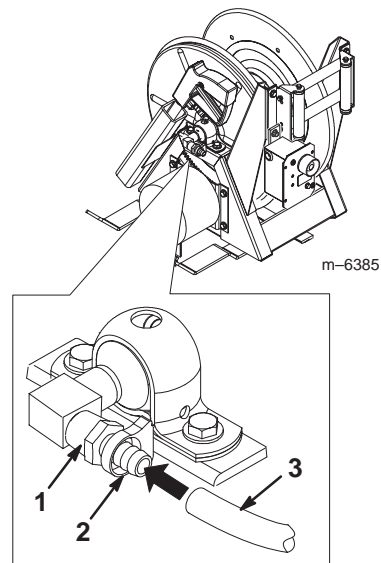

Figure 16
18. Wrap Teflon tape counterclockwise around the threads of a barbed fitting (1/2 inch) and install it into the inlet port on the side of the hose reel (Fig. 16).
20. Connect the end of the hose to the fitting on the hose reel (Fig. 16) and secure both ends with 2 small plastic hose clamps.